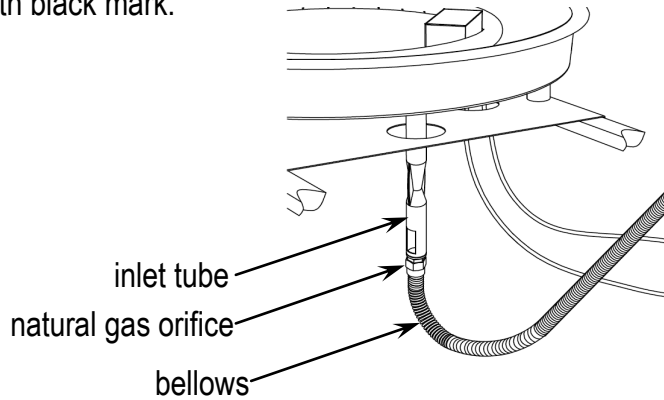

Figure 10
- Replace the propane orifice with the natural gas orifice, screw the natural gas orifice with the bellows tightly, then connect and tighten the natural gas orifice with inlet tube (see Figure 10). Natural gas orifice (dia4.30mm size) is painted with black mark.